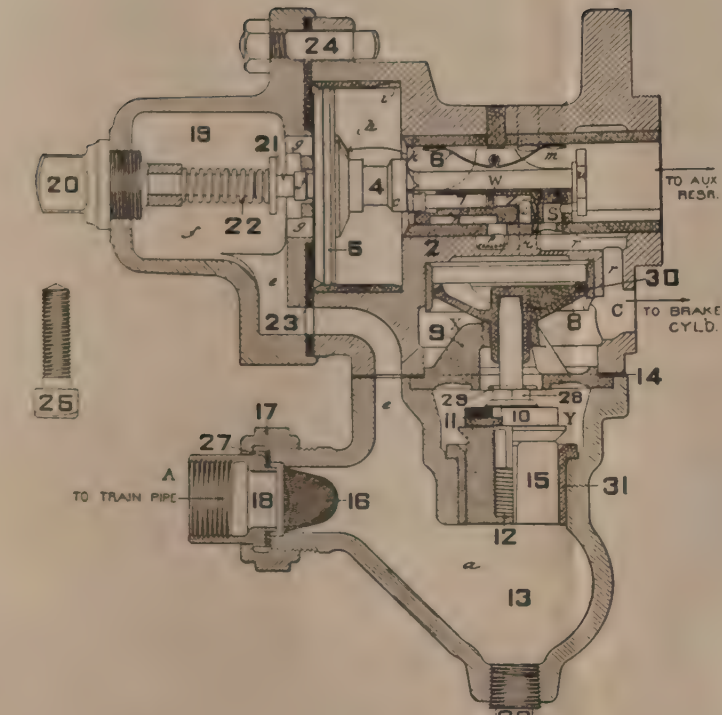

Fig. 291. Emergency Application.
A. Referring to Fig. 291, Plate II, the triple piston makes
A. Sudden train-pipe pressure reduction moves the main piston to the left so fast that the spring 22 gives and lets the piston go to the position seen in Fig. 291, where a diagonal slot in the slide valve (see Fig. 292) opens port *t* (see dotted lines below the letter *Z*) and lets air into the chamber above the emergency piston 8, forcing this down, unseating emergency valve 10, and letting the pressure in the small chamber *Y* above the check valve 15 escape into the brake cylinder. Train pipe air raises the check and rushes through *a*, *Y*, and *X* into the brake cylinder at *C*. Air from the auxiliary reservoir flows through the small port *S* and *r* into the brake cylinder.